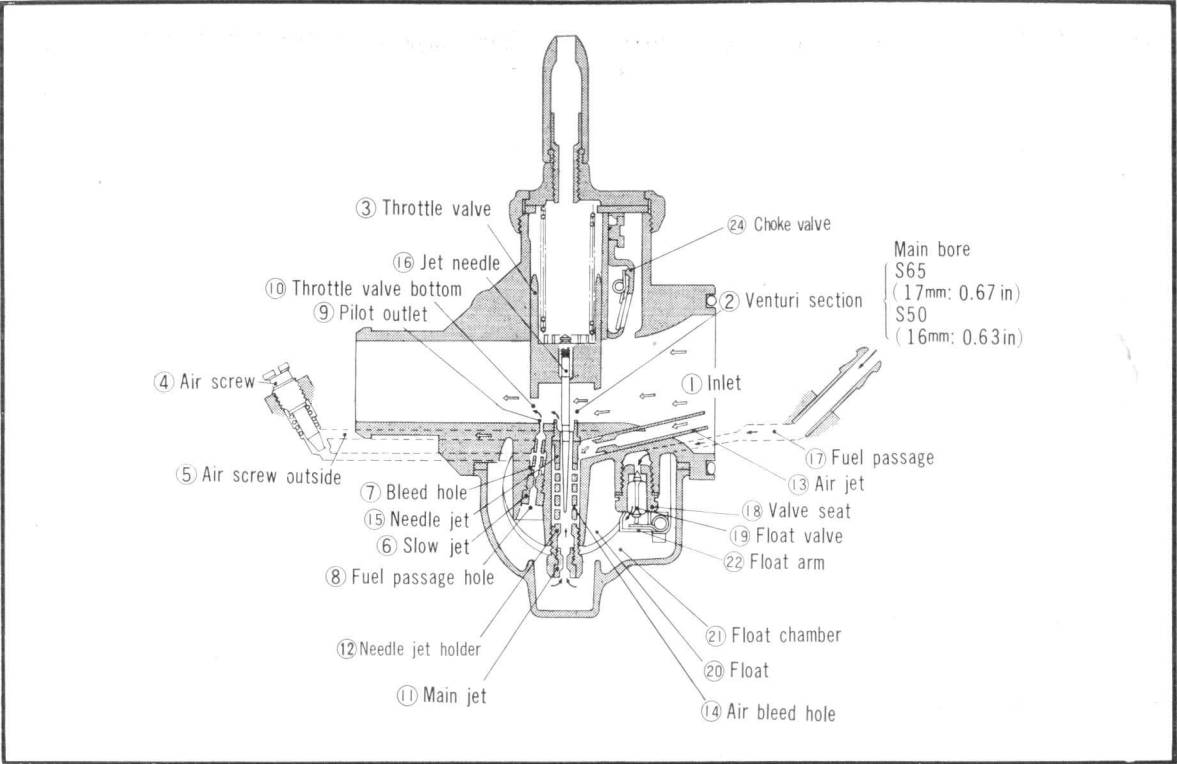

Figure 3-107. Carburetor cross sectional diagram
The air which passes through the air cleaner enters from inlet opening ①, passes under throttle valve ③ (main bore ②) and taken into the inlet side of the engine. The power output is determined by the volume of air taken into the engine. This necessary air flow is controlled by the vertical movement of the throttle valve which varies the area of the main bore ②. (Fig. 3-107)
The air which flow through the main bore ② creates a low pressure directly under the throttle valve. It is here that the fuel outlets for both the main and slow systems are located. (Fig. 3-107)
The fuel passes through main jet ⑪ and enters the needle jet holder ⑫. The fuel mixes with the air taken in at air jet ⑬ and bled through air bleed hole ⑭. The fuel air mixture passes between needle jet ⑮ and jet needle ⑯, and discharges in a spray below the throttle valve ③. The fuel is atomized and mixed with the main air stream and is taken into the engine. (Fig. 3-107).